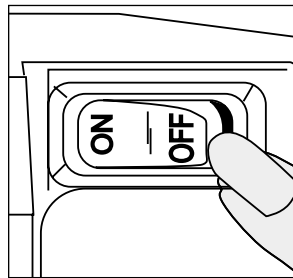

Figure 1
1. Make sure the power switch is in the “Off” position (**Fig. 1**).